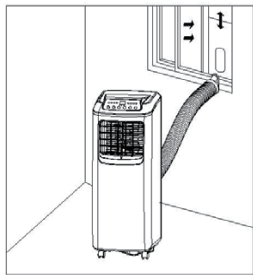

Figure 8
2). Snap the flat end of the heat exhaust hose short connector into the elliptical hole of the window sealing board assembly (as shown in Figure 8 and 9).